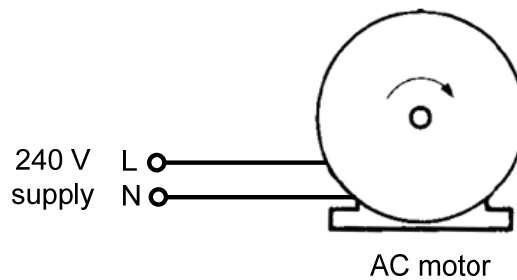

Figure 1.2
- (b) A single-phase AC motor is connected to a supply with line voltage 240 V as shown in Figure 1.2. The motor produces an output of 3 hp. Measurement on the system showed that the line current is 12 A and the active power absorbed by the motor is 2.5 kW. Calculate the following (1hp =0.746 kW):